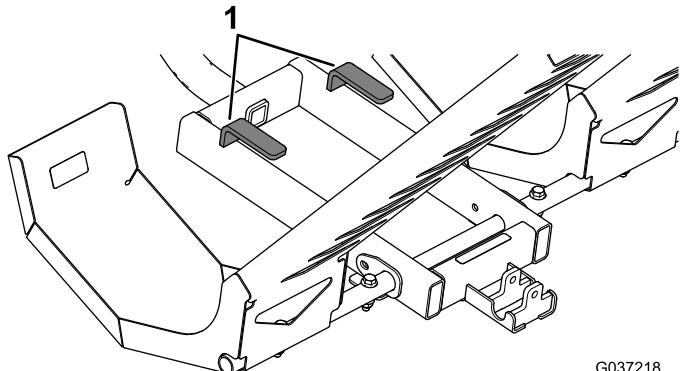

Figure 14
2. Engage the spreader axles using the axle holders (Figure 14).